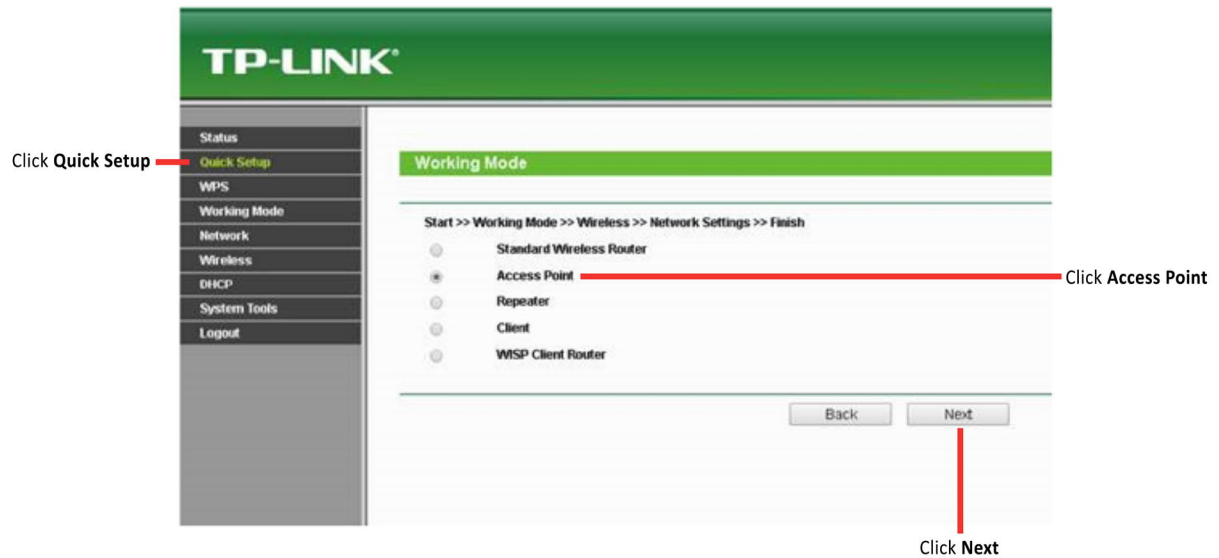

Figure 60: Start Router Configuration
5. On the left panel, click Quick Setup. (Figure 60)
7. In the *Main Panel*, select the Access Point button. (Figure 60)